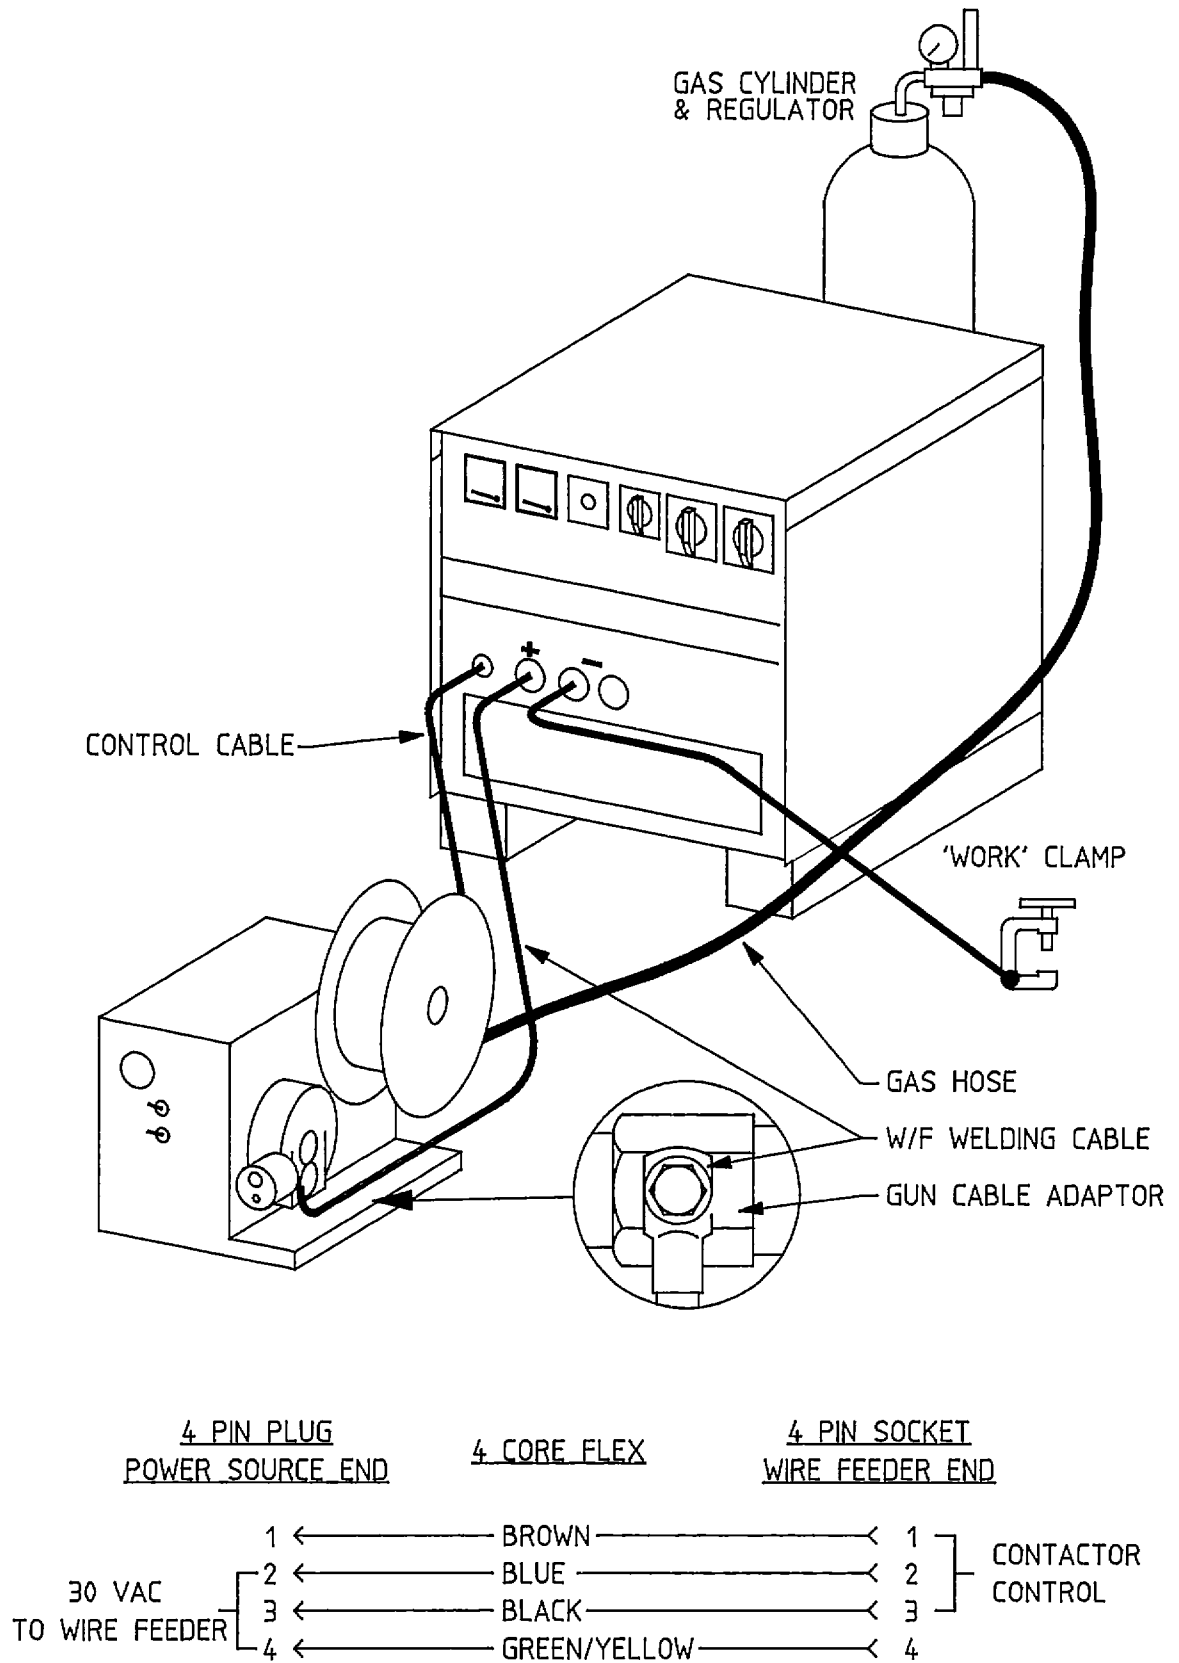

FIGURE 1. CABLE AND HOSE CONNECTIONS, ELECTRODE POSITIVE GMAW
All Welding Current, Control and Shielding gas connections are shown in Figure 1. The cables and hoses are contained in accessory kit AM196.
**POSITIVE WIRE:** Most gas shielded G.M.A. welding is carried out with the workpiece Negative and the welding consumable wire Positive. To set the machine for this condition, connect the 'Work' onto the selected (-) inductance output, and the wirefeeder welding lead to the (+) output as shown in Figure 1.